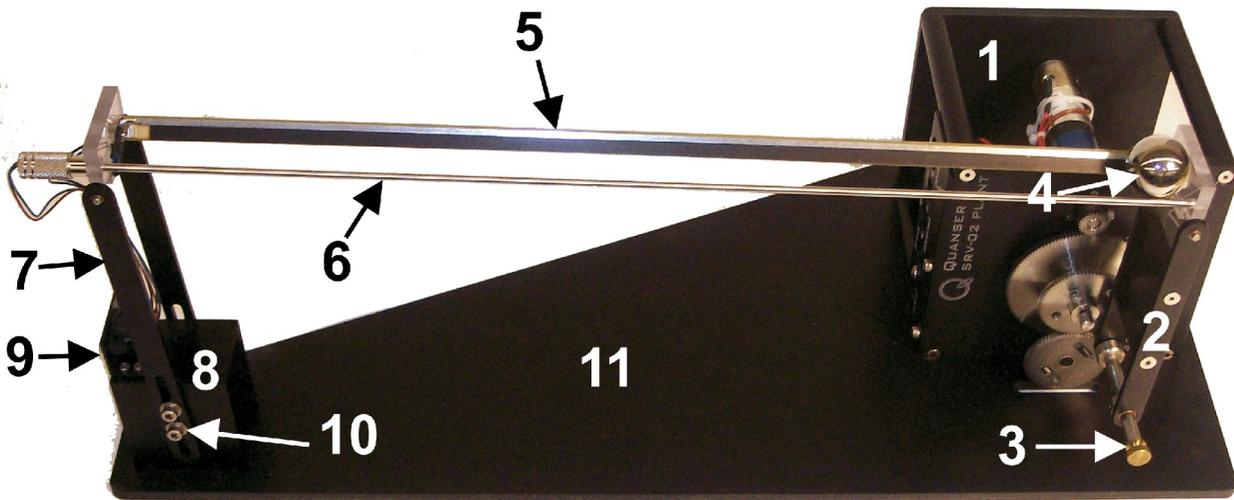
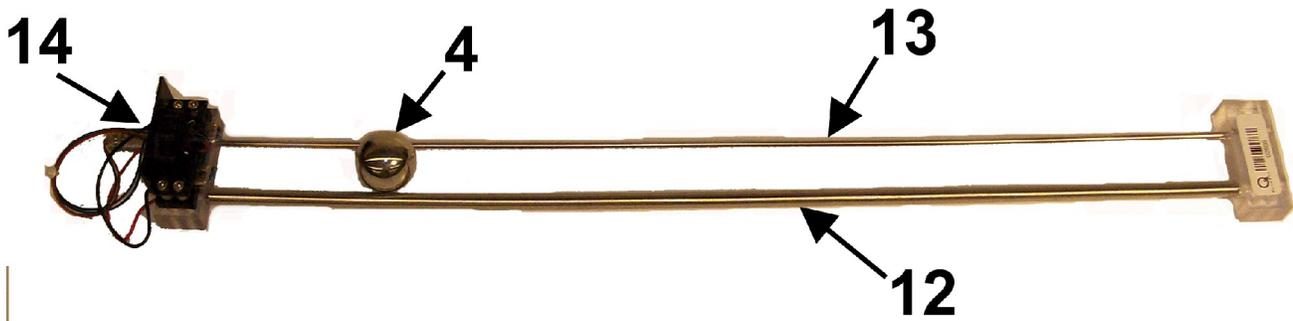

Figure 2: Components of SRV02 BB01 module.
Figure 3: Remote sensor components.
The components of the Ball and Beam module, i.e. the BB01 device, and the Remote Sensor system, i.e. SS01, are listed in Table 1 below and labeled in Figure 2 and Figure 3.
2. Lay the calibration base, component #11 in Figure 2, flat on a table surface.
5. Place the support base of the ball and beam, component #8 into the cut-out section of the base, as pictured in Figure 2.
1. Using an 9/64 Allen Key loosen the screws on the support arm, which are shown in Figure 2 by ID #9.
9. If the SS01 remote sensor module (shown in Figure 3) will be used to command the ball position, then connect the *Ball Position Sensor* connector on the SS01 to the *S4* socket on the UPM using the 6-pin-mini-DIN to 6-pin-mini-DIN cable. This connection is labeled #7 in Figure 15 and Figure 18. It carries the measured ball position from the remote beam potentiometer and is denoted by the variable x_d .